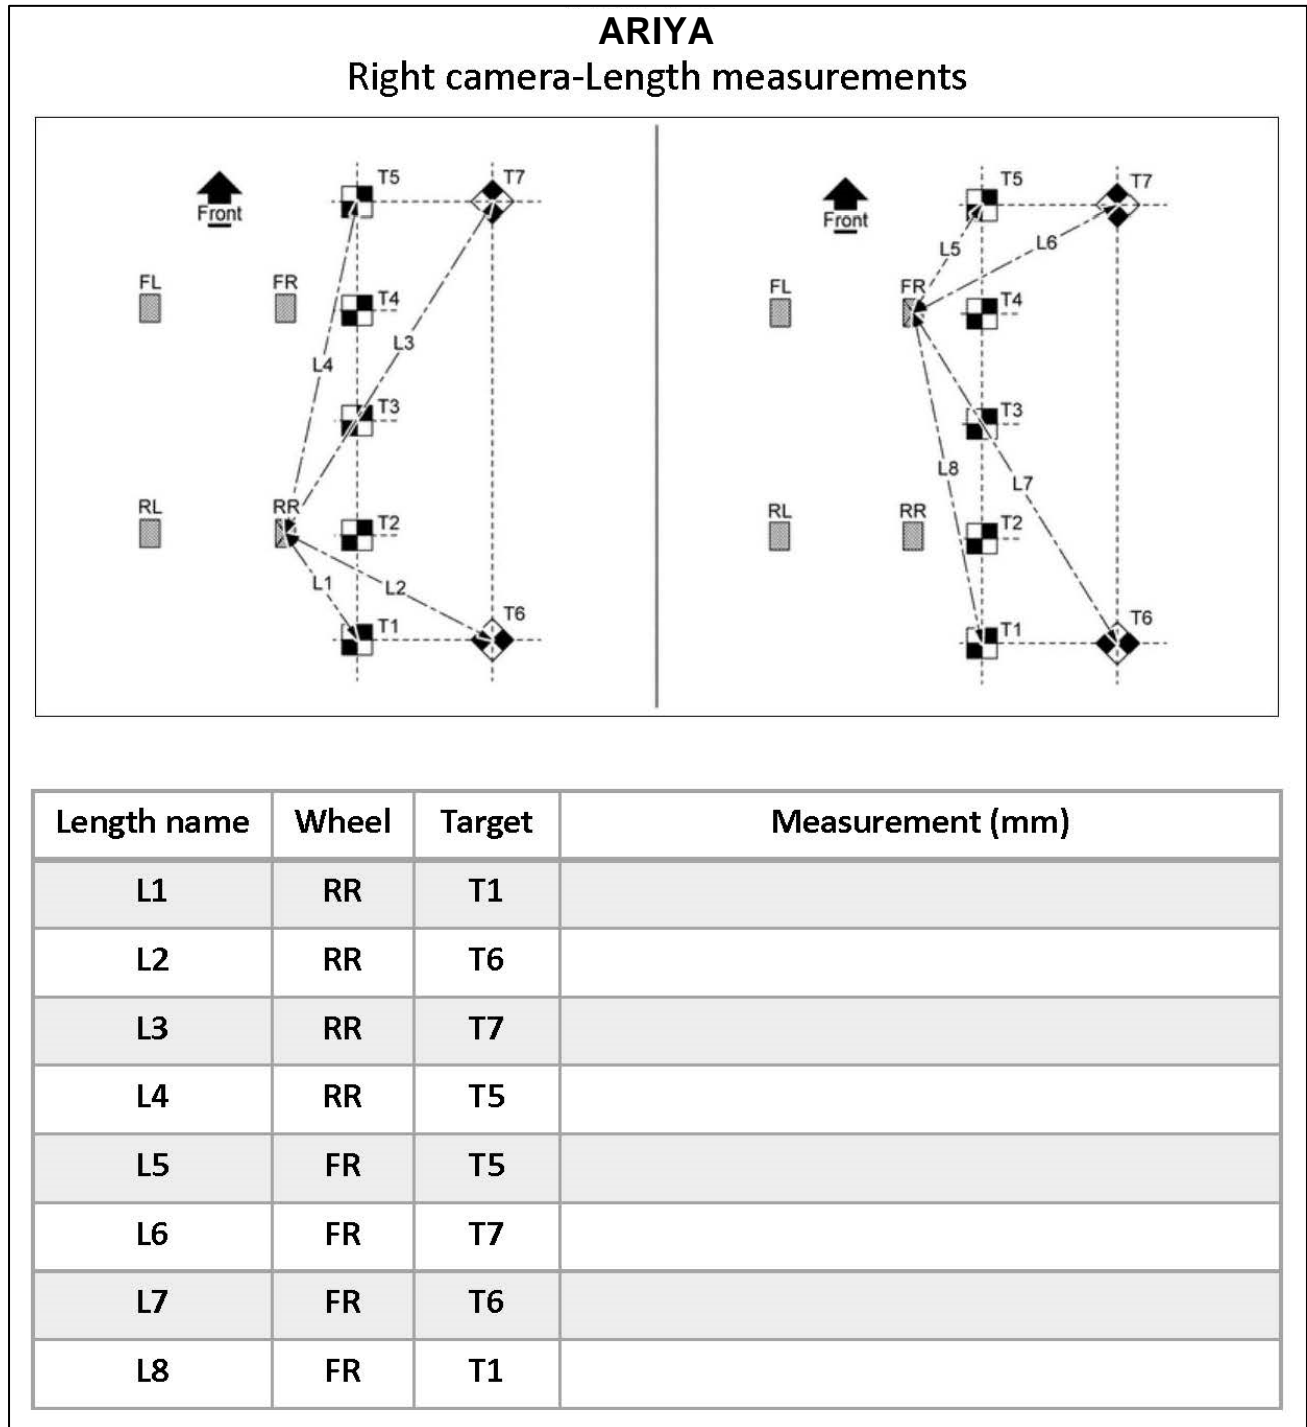

Figure 60
38. Measure the distance between the wheel center point and the center of the calibration targets T1, T6, T7, and T5, as shown in Figure 60 below.
IMPORTANT: All measurements must be in millimeters (mm). Refer to the illustrations in Figure 60 to ensure the correct measurement is documented in the correct order and for each calibration target.